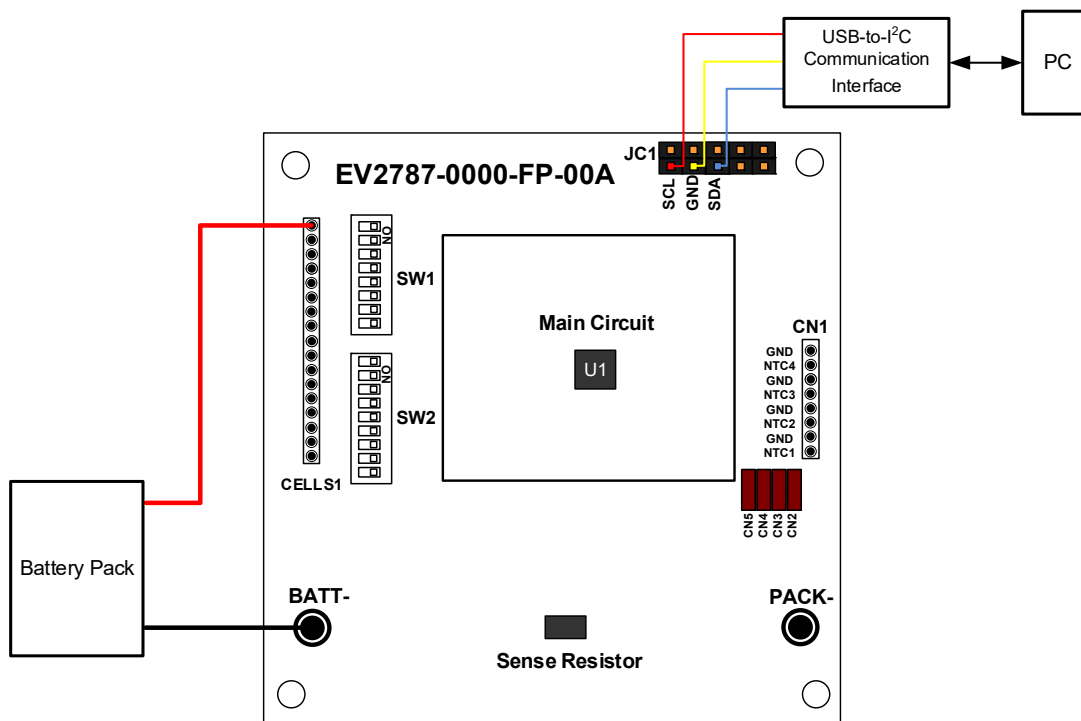
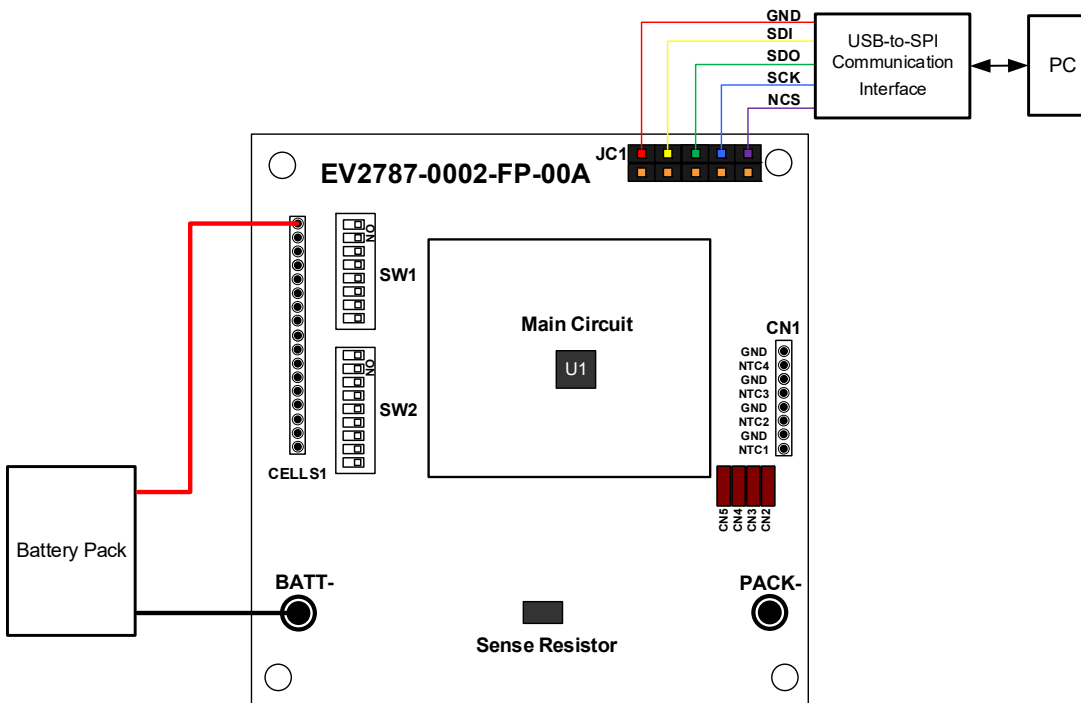

Figure 3: Test Set-Up for the MP2787DFP-0000
Figure 4: Test Set-Up for the MP2787DFP-0002
3. Figure 3 and Figure 4 on page 5 show the original test set-up for the MP2787DFP-0000 and MP2787DFP-0002, respectively.